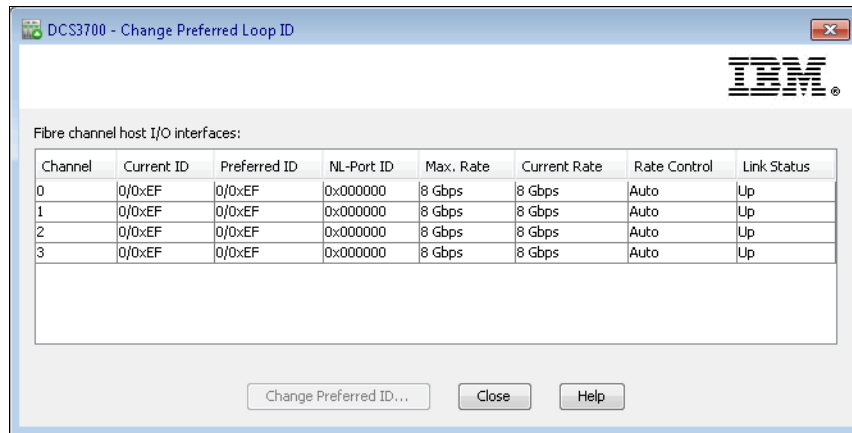

Figure 9-18 FC ports - Loop ID
1. Select the controller in the Physical pane, right-click it, and select **Preferred Loop ID** in the menu. A list of FC ports displays in a new window (Figure 9-18).